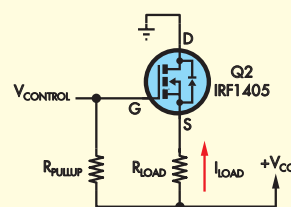

Fig.9: using a MOSFET as an active rectifier.
conduct and it would be impossible for the MOSFET to provide reverse polarity protection. Hence, we must reverse the MOSFET and connect it so that the source is positive with respect to the drain (D), as shown in Fig.9.